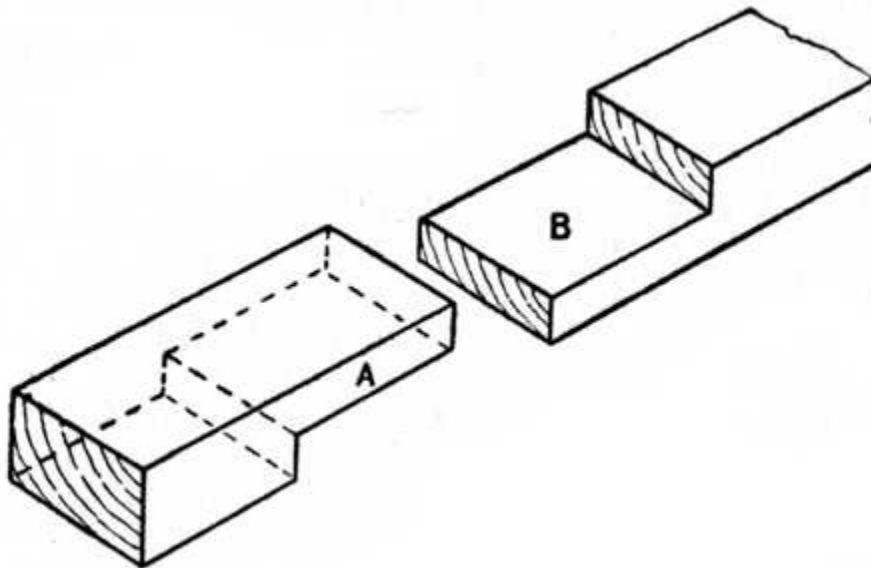
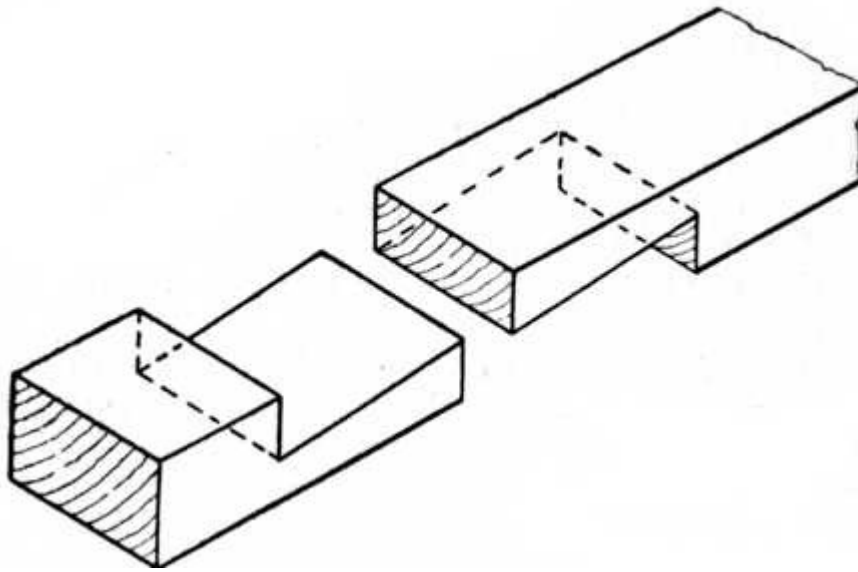

Fig. 211.—Half-Lap Scarf Joint for Light Timber.
Fig. 212.—Dovetailed Scarf Joint.
The two pieces before they are placed together form a joint as shown at Fig. 211, the projecting part (A) fitting into the recessed portion marked B and the two pieces being secured in their respective positions by screws.
Fig. 212 shows a dovetailed scarf joint. This is a variation of Fig. 211, the length of the dovetail lap being from 6 ins. to 8 ins. in length.